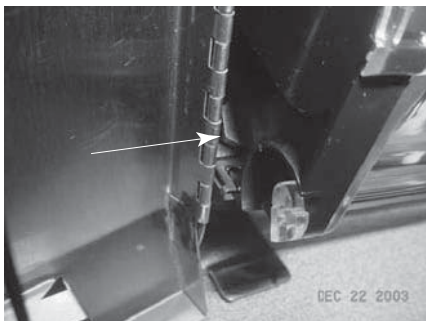

Fig. 3
4. Remove the metal speed nuts from the bottom sides of the old module and place them on the new replacement module in the same position and orientation as they were on the old module. (See Figs. 3 & 4)
5. Install the new module in the reverse order as described above. Make sure that the speed nuts do not dislocate as the module is placed into the cabinet. (See Figs. 3 & 4)